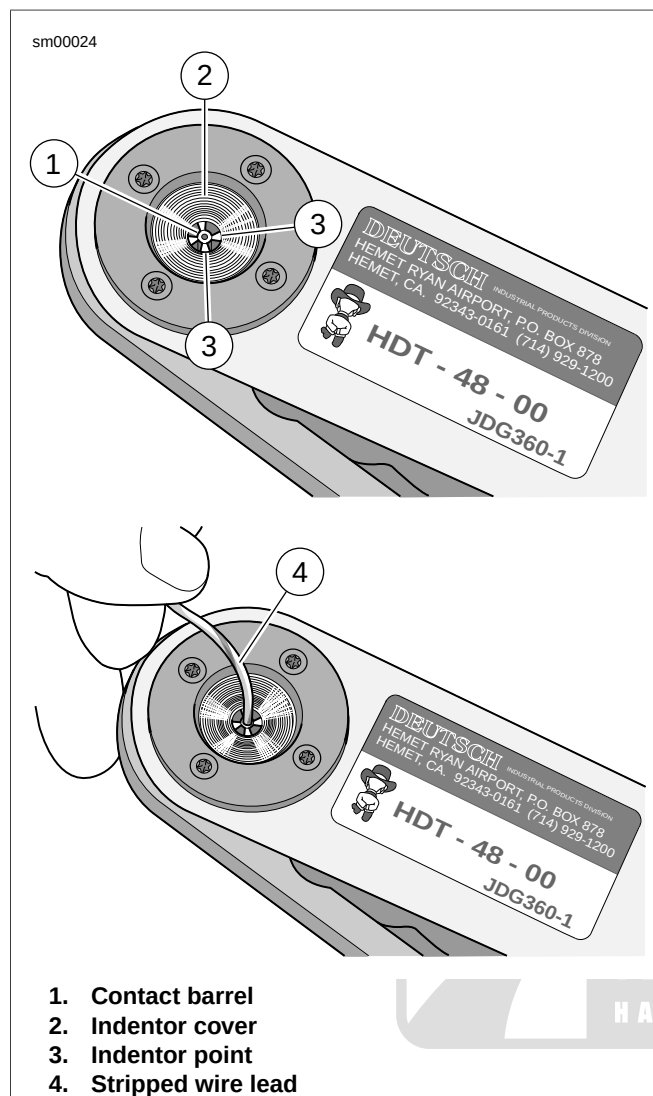

Figure A-22. Deutsch Solid Barrel
1. See Figure A-22. Turn tool over and drop contact barrel (1) into indenter cover (2) hole with the wire end out.
3. Slowly squeeze handles of crimp tool until contact is centered between the four indenter points (3).
4. Insert bare wire core strands of stripped wire lead (4) into contact barrel. Squeeze handle of crimp tool until tightly closed. Tool automatically opens when the crimping sequence is complete.